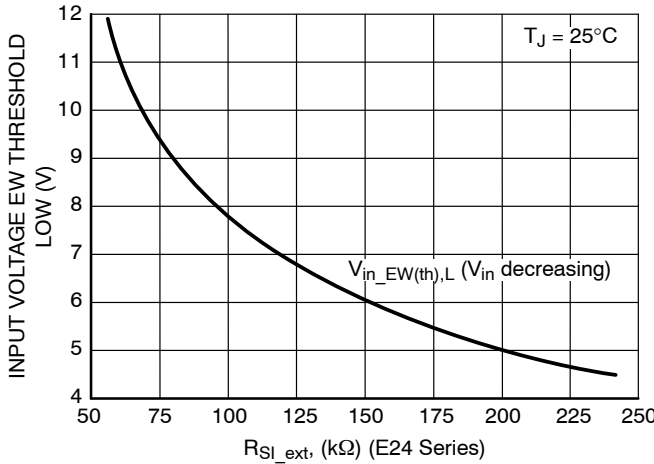
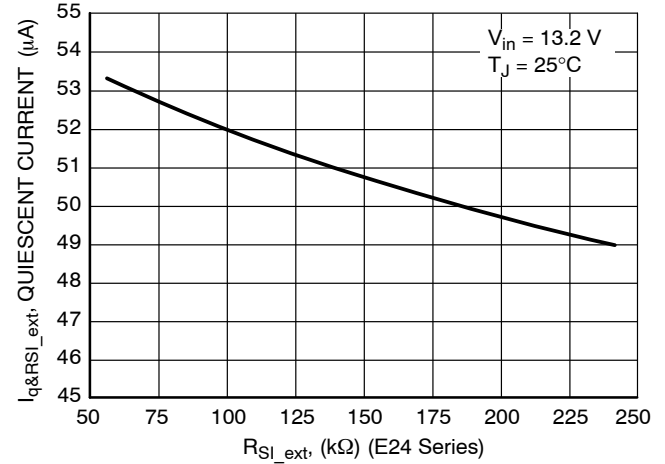

Figure 26. Input Voltage EW Threshold Low vs. R_{SI_ext} (Calculated Using E24 Series)
Figure 27. Quiescent Current vs. R_{SI_ext} (Including I_{R_SI_ext}, Calculated Using E24 Series)
13. I_q for Preset EW Threshold Options is measured when R_{SI_ext} is not used. For typical values of I_q vs R_{SI_ext} see Figure 27.
Practically only preset options above 4.5 V can be used without R_{SI_ext} due to minimum operating input voltage value limitation. For other preset options the trip point has to be adjusted externally using R_{SI_ext} resistor connected between input monitor SI and GND (see Figure 1). For other preset options R_{SI_ext} has to be used to achieve V_{in_EW(th)} > 5.5 V (minimum operating input voltage value). The value for R_{SI_ext} is recommended to be selected in range from 50 kΩ to 250 kΩ and the trip point can be shifted according to Figure 26. In case of R_{SI_ext} values higher than 200 kΩ two resistors in series could be used in order to eliminate leakage current of the resistor and hence ensure precision of its resistance value. The higher is R_{SI_ext} the lower is overall Quiescent Current of the application (see Figure 27). General formulas for calculation of V_{in_EW(th)Low} or R_{SI_ext}
The Sense Output is from an open drain driver with an internal 30 kΩ pull up resistor to V_{out} . Figure 26 shows the SO Monitor timing waveforms as a result of the circuit depicted in Figure 1. If the input voltage decreases the output voltage decreases as well. If the SI input low threshold voltage is crossed it causes the voltage on the SO output goes low sending a warning signal to the microprocessor that a reset signal may occur in a short period of time. TWARNING is the time the microprocessor has to complete the function it is currently working on and get ready for the reset shutdown signal.